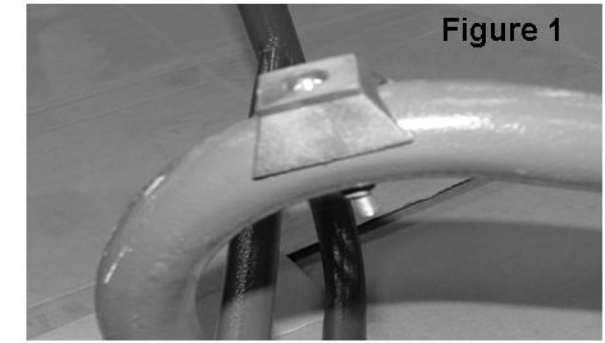

Figure 1
1. Flip frame (A) over. Attach rubber feet (Q) to bottom of frame. Insert bolts into bottom of frame. Attach nuts and tighten. Flip frame back over. See Figure 1.